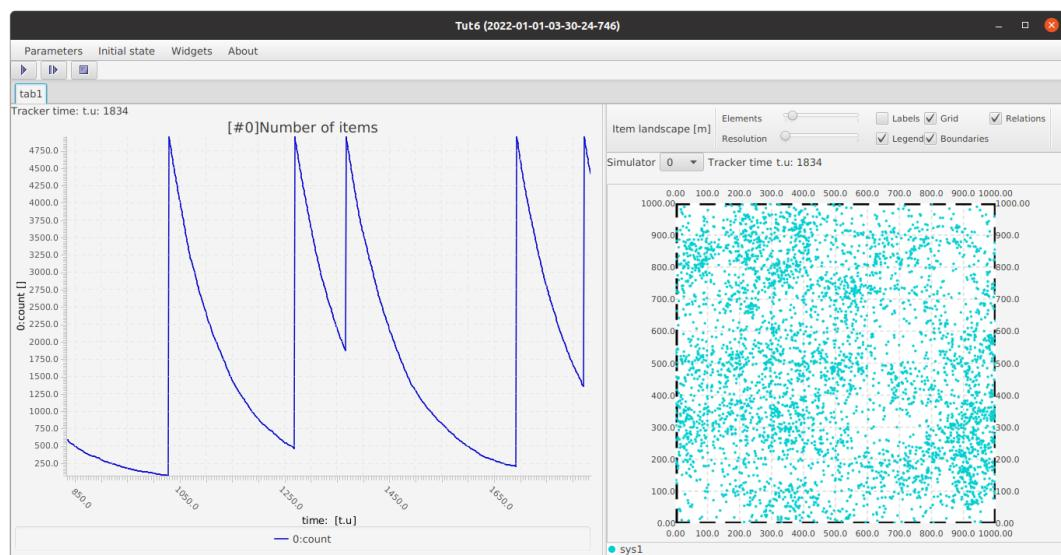

Figure 63. Running Tutorial 6.
4. Deploy the simulation [Alt+D] (Figure 63).